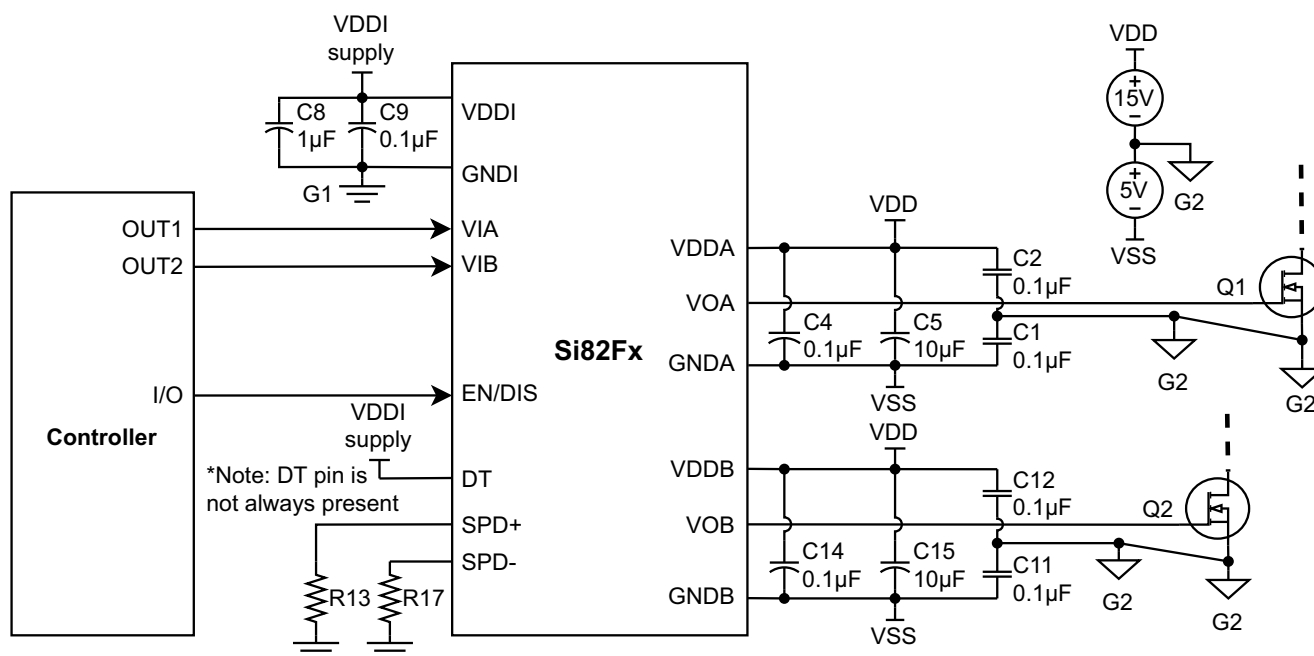

Figure 22. Dual Low-Side Driver Application Circuit
Figure 22, “Dual Low-Side Driver Application Circuit,” below depicts the circuit for driving dual low-side FETs. When the dead time pin (DT) is tied to the logic input supply (VDDI), the Si82Fx device operates as a dual gate driver without overlap protection or dead time insertion. In this dual driver mode, the Si82Fx device can be used for high-side/low-side, dual high-side, dual low-side, or any circuit topology. However, the controller is responsible for providing overlap protection and dead-time insertion. In the dual low-side circuit topology depicted below, the +15 V and –5 V sources are shared by Gate Drivers A and B to generate bipolar V_{GS} outputs. For a dual high-side application, Driver A and Driver B cannot share the same power supply and will require the individual isolated power supplies, even if the V_{GS} output is unipolar.